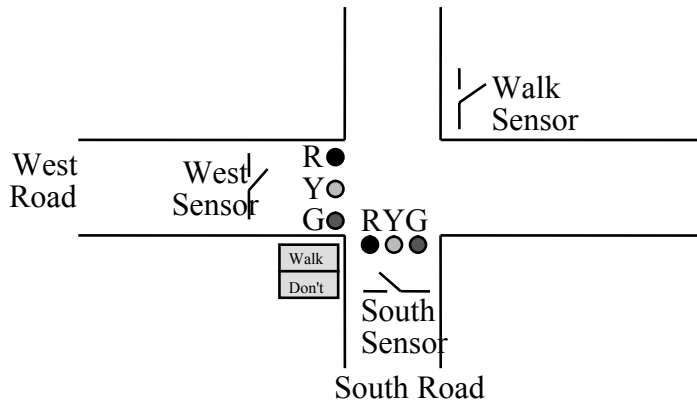

Figure 4.1. Traffic Light Intersection.
Consider a typical 4-corner intersection as shown in Figure 4.1. There are two one-way streets labeled South (cars travel North) and West (cars travel East). There are three inputs to your 9S12, two are car sensors, and one is a walk button. The *South* sensor will be true (1) if one or more cars are near the South intersection. Similarly, the *West* sensor will be true (1) if one or more cars are near the West intersection. The *Walk* sensor will be true (1) if a pedestrian wishes to cross in any direction. There are 8 outputs from your microcomputer that control the two Red/Yellow/Green traffic lights, and the two walk/don't lights. The simulator allows you to attach binary switches to simulate the three inputs and LED lights to simulate the eight outputs.